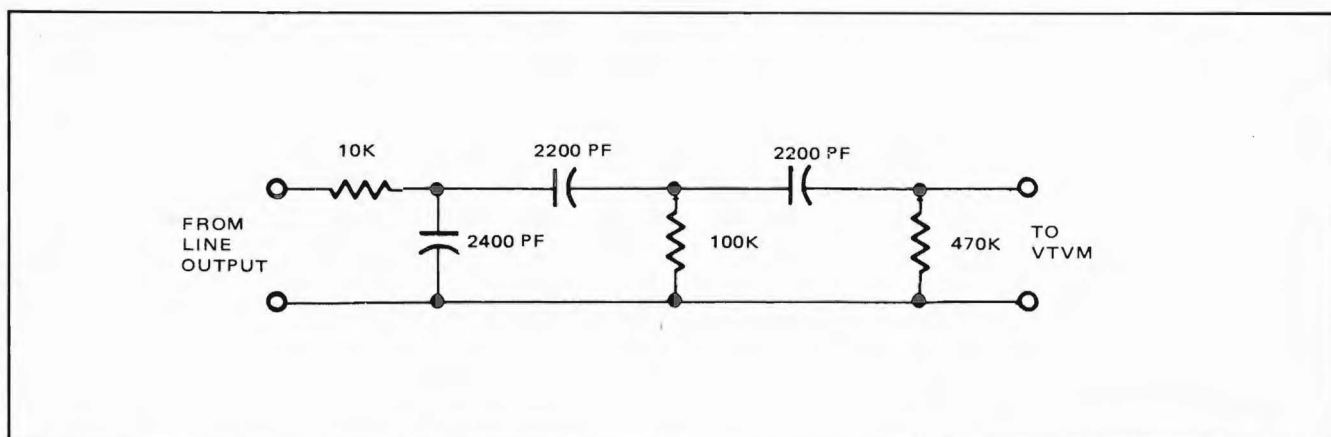

Figure 5-16. ASA "A" Weighted Filter
1. Connect the output connectors of the deck through an "A" weighted filter (see Figure 5-16) to a vtm, and terminate in 600-ohm load.
1. Disconnect all input signals from the input connectors. Connect channel 1 output connector through an A-weighted filter to a vtm. (See Figure 5-16 for schematic of filter.)